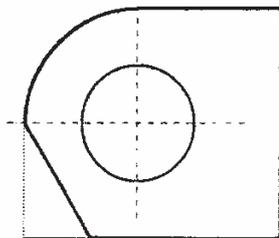

Figure 3
- (a) Figure 3 shows an elevation of a template.